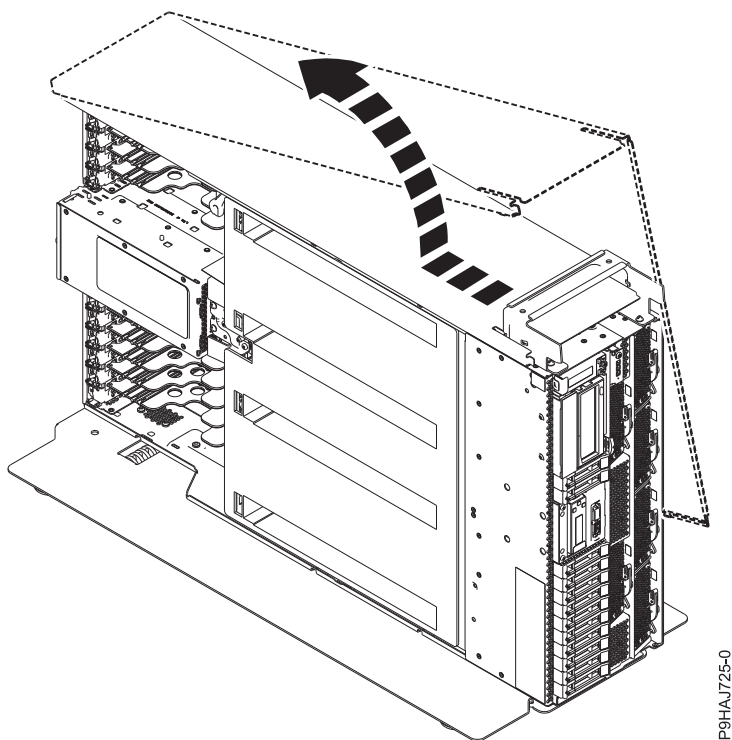

Figure 9. Removing the side cover
5. Slide the side cover off of the system in the direction that is shown in Figure 9 on page 22.